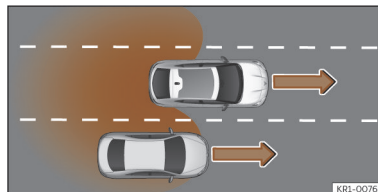

Fig. 133 Overtaking in the central lane and then joining the right lane.
- When overtaking another vehicle >>> **Fig. 133** with a speed difference of approx. 10 km/h (6 mph). If the vehicle is passing at a considerably higher speed, no indication will be displayed.